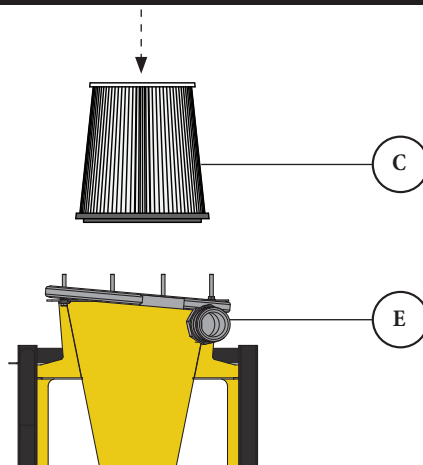

FIG. 3
Place the Filter (E) on top of the Cyclone and Cart Assembly (G) with the open side facing down [FIG. 3].